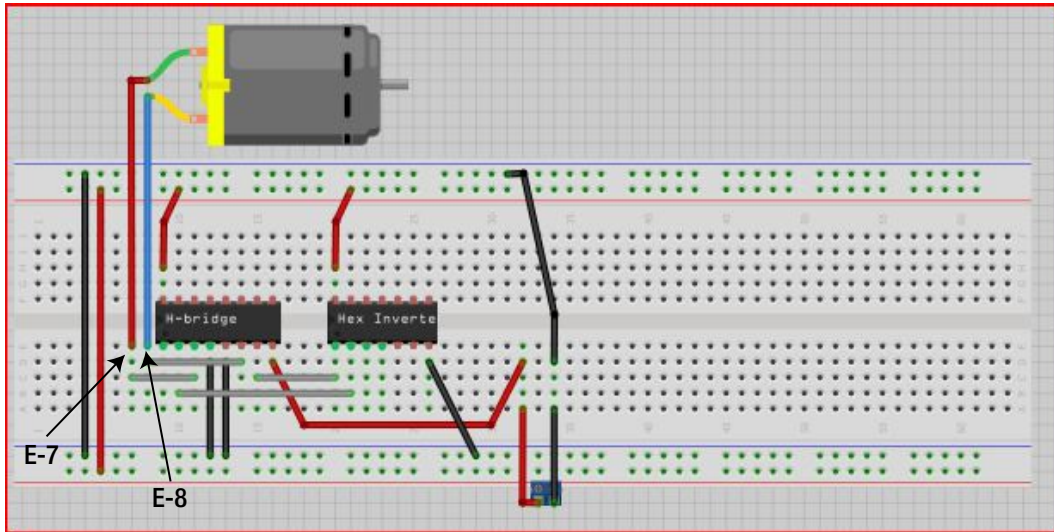

Figure 15-10. Attach the motor to the H-bridge via pins 3 and 6
16. Now connect the wire from pins 3 and 6 of the H-bridge to the DC motor. Insert one of the DC motor's wires into E-7 and the other into E-8—it doesn't matter which wire you choose to insert into E-7 or E-8. Figure 15-10 illustrates this process.